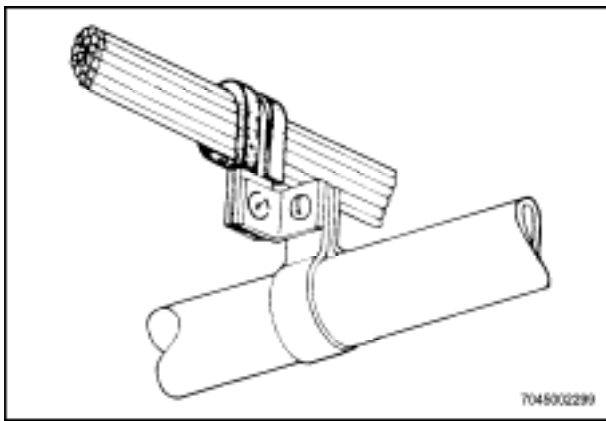

Figure 4-8 Separation of Wires From Plumbing Lines
29. When wiring must be routed parallel to combustible fluid or oxygen lines for short distances, maintain as much fixed separation as possible, 15cm or more. Route the wires on a level with, or above, the plumbing lines. Space clamps so that if a wire is broken at a clamp it will not contact the line. Where a 15cm separation is not possible, clamp both the wire bundle and the plumbing line to the same structure to prevent any relative motion. If the separation is less than 50mm but more than 12.7mm, use a nylon sleeve over the wire bundle to give further protection. Use two cable clamps back to back, as shown in Figure 4-8, to maintain a rigid separation only (not for bundle support).